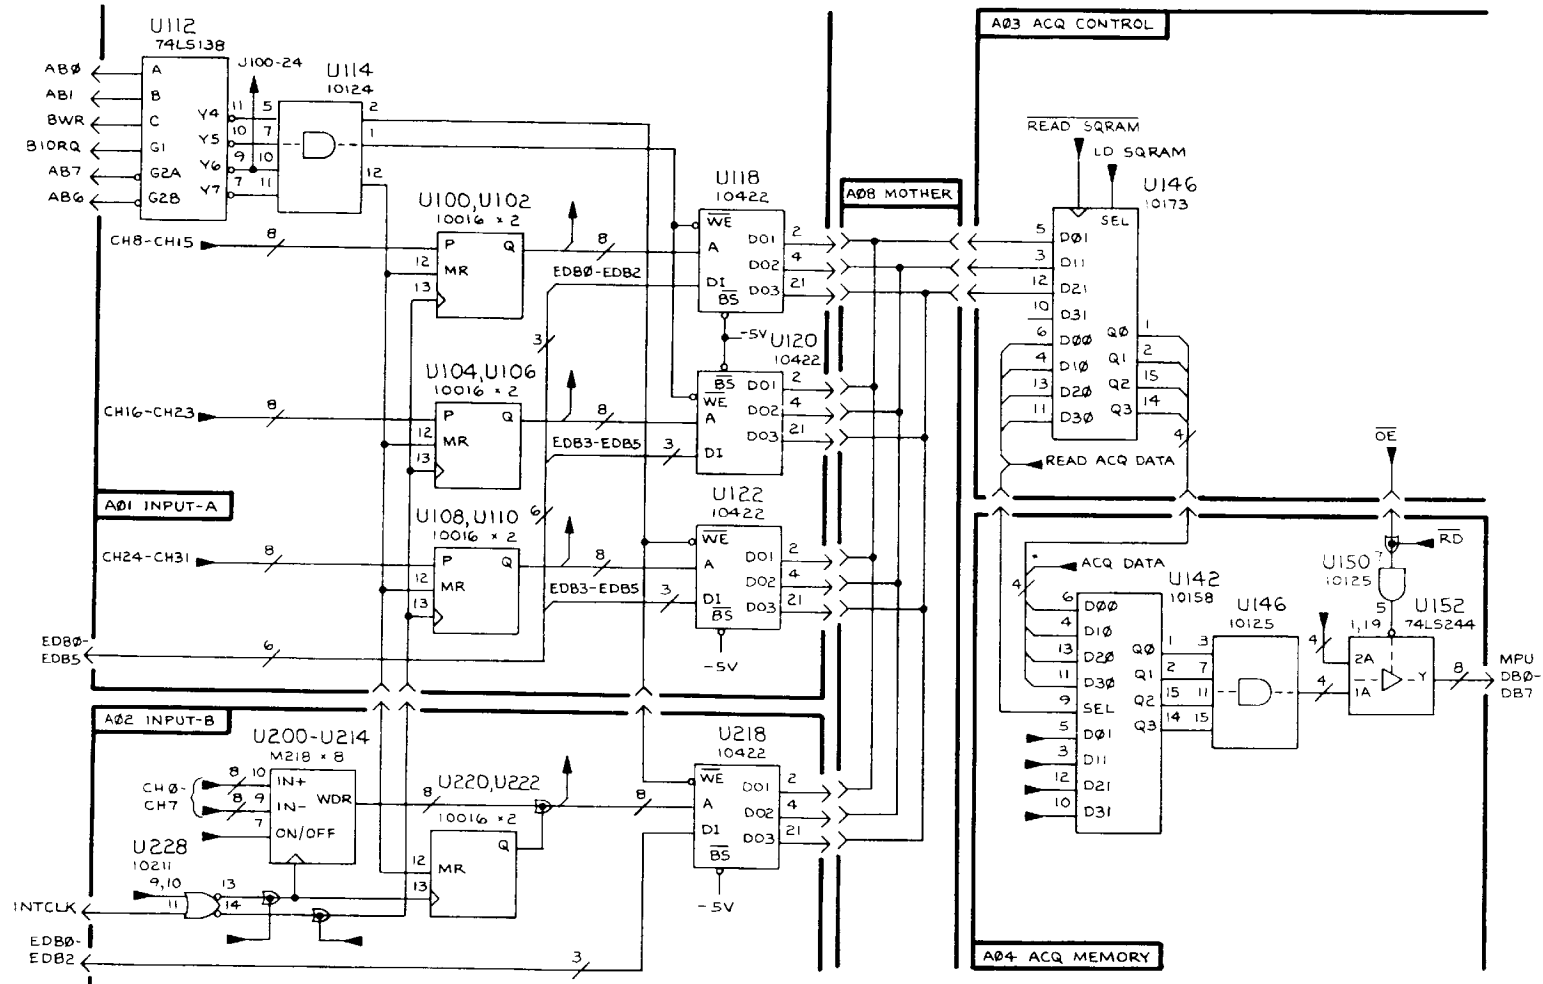

Figure 7-39. 338 Word recognizer test.
Description: Refer to Figure 7-39. On the A01 INPUT-A board, data from channels 8 through 31 are latched by U100 through U1 10 (4-bit binary conter, F10016), and are then supplied to the word recognizers (WR) U118, U120 and U122 (256 word X 4-bit RAM, HM10422) eight channels at a time for trigger detection. U100 through U110 are used as both latches to acquire data, and as WR counters to set up the WRs.